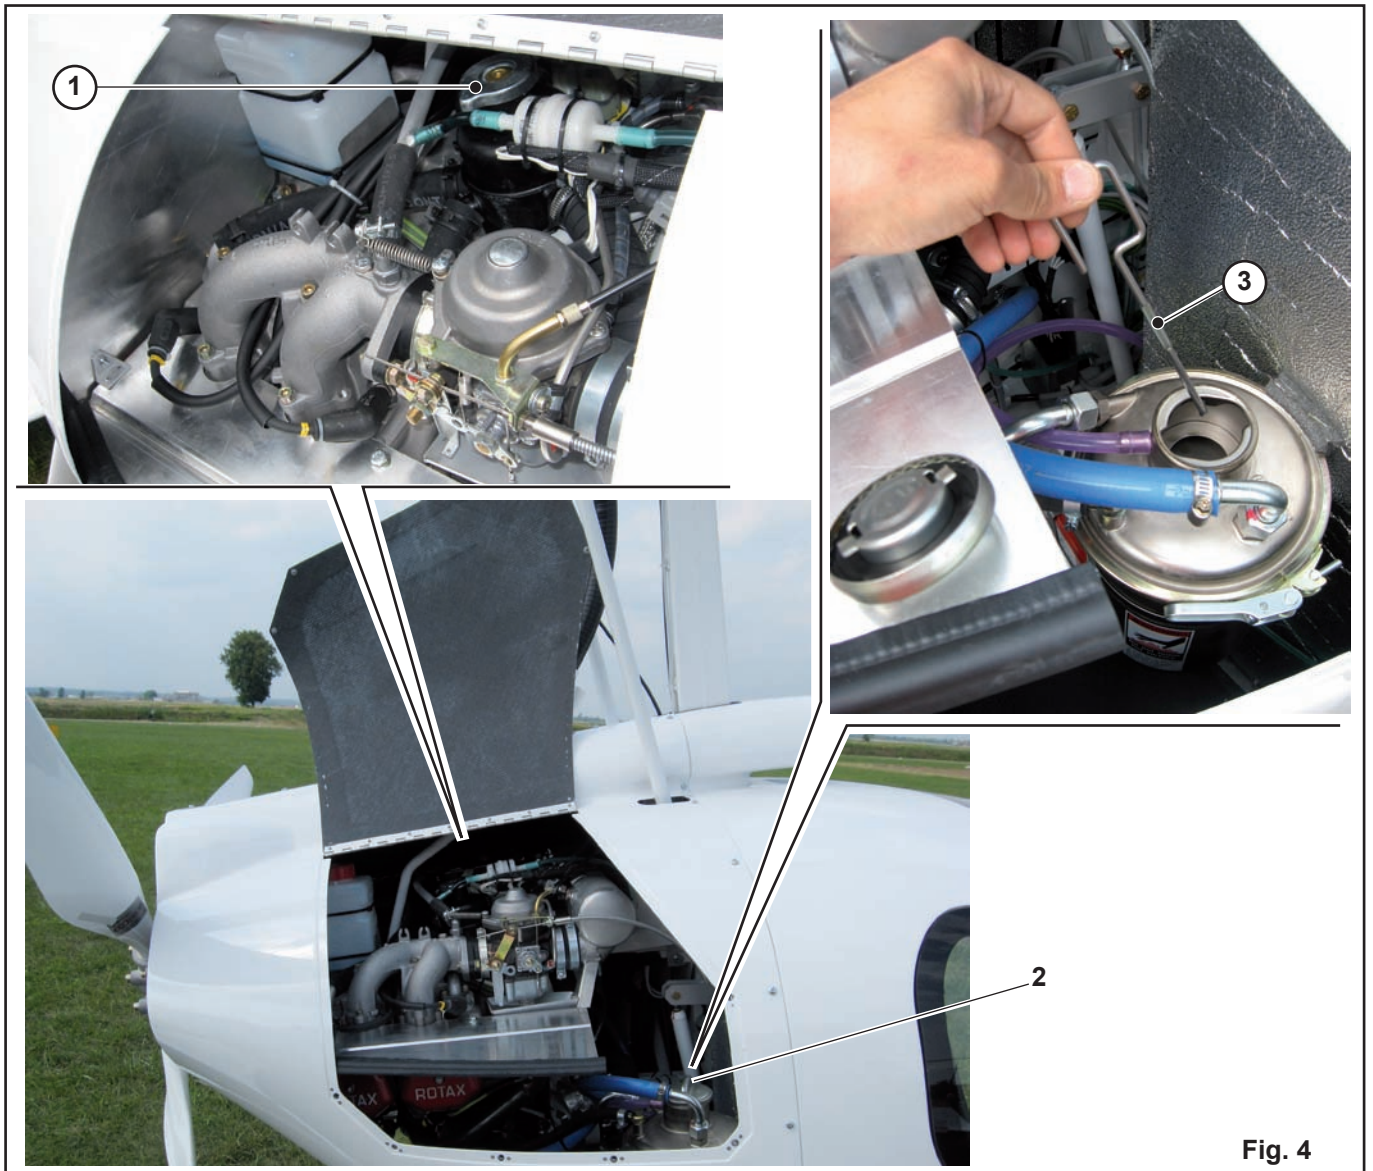

Fig. 4
4.6.3 ENGINE COMPARTMENT INSPECTION - RIGHT HAND SIDE (Fig. 4)
10. COOLANT LEVEL (Fig. 4)
11. ENGINE OIL LEVEL (Fig. 4)